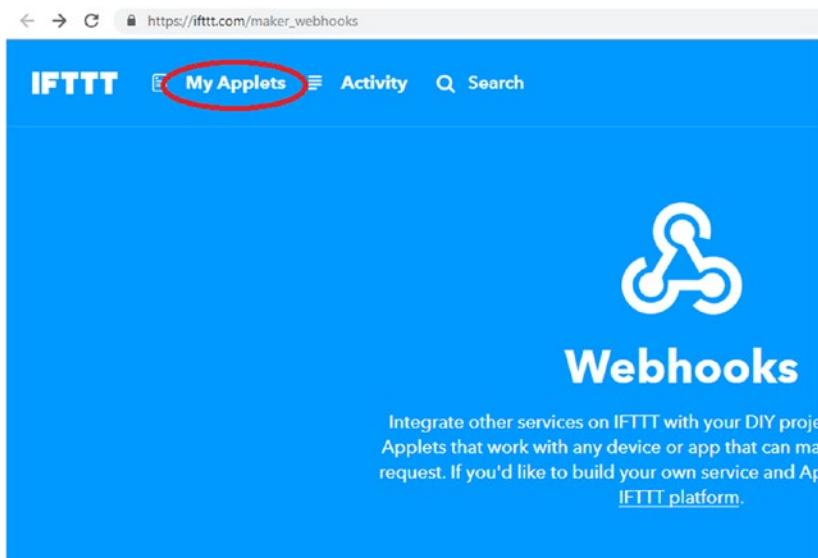

Figure 8-25. Accessing My Applets from the top navigation menu
6. At the top-left corner of the page, click My Applets (Figure 8-25).